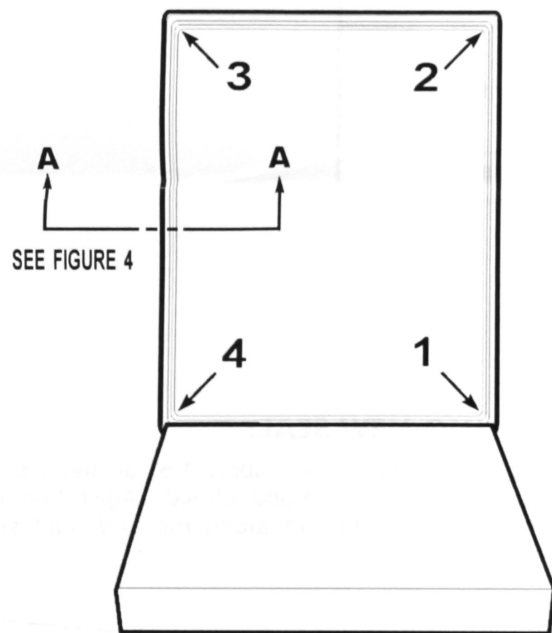

FIGURE 3
2. Insert new seal, starting at bottom right. With the retaining flipper and the white line facing the outside of the tub. See Figure 4. Install bottoms and corners of seal in each of the four points as shown. At points 1 and 4, the gasket should just touch the bottom of the tub; it should not be "wrapped" under the door. See Figure 3. After seal is lightly installed, go back along entire surface of seal and push seal securely into place. Seal must rest tightly against tank as shown in "correct" illustration. See Figure 5.